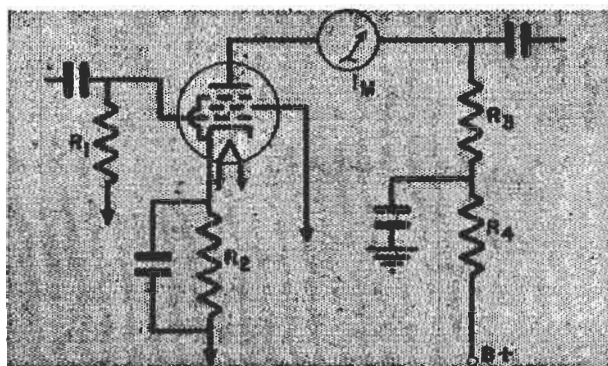

FIG. 15. Distortion is occurring if the plate current changes when signals are applied to a class A stage.
► Current measurements quickly spot class A stages in which distortion exists. Just connect a current meter in the plate circuit, as in Fig. 15, and notice whether the reading changes when signals are applied. You learned from Figs. 4 and 5 that distortion causes a change in the average plate current when signals are applied.
It's easier to make this check if you measure the plate current indirectly, instead of breaking the plate or cathode circuits for a direct measurement. Notice the plate current of the tube in Fig. 15 flows through resistors R_2 , R_3 and R_4 . If the plate current changes, the voltage across these resistors will also change, so all you need do is connect a voltmeter across one resistor and notice whether the reading changes when a signal is applied. An increase in voltage means an increase in plate current, while a decrease in voltage means the plate current has decreased.